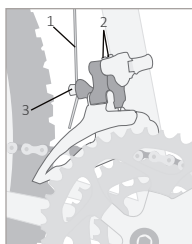

FIGURE 3.12
2. Loosen the cable-clamp bolt (Figure 3.12) until the cable is free.